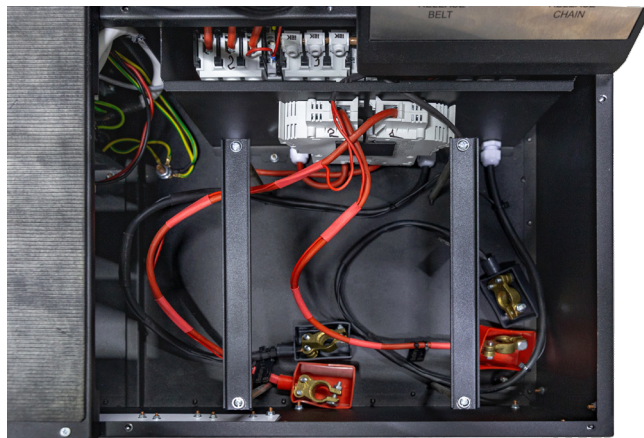

Figure 10. Location of the storage batteries in the bench.
- 1) Storage batteries 12V that have to be located in the storage battery section of the bench (fig.10). The left door is opened with the keys (included to the supply slip). While connecting the